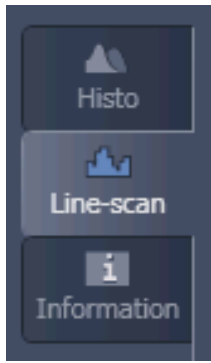

Fig. 283 Selection of Line Scan diagram
- Press **Continuous** to start a continuous scan. Press the **Line Scan** tab (Fig. 283).